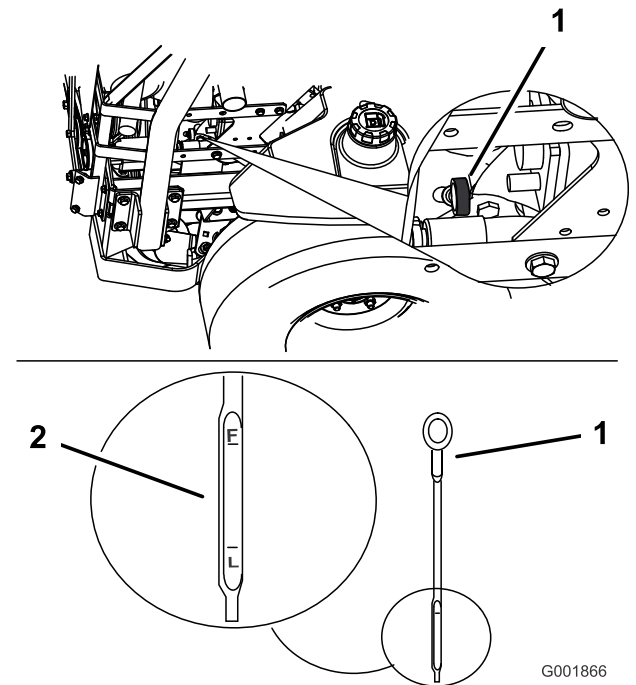

Figure 42
- Clean around the oil dipstick (Figure 42) so dirt cannot fall into the filler hole and damage the engine.
- Pull the oil dipstick out and wipe the metal end clean (Figure 42).
- Slide the oil dipstick fully into the tube. Pull the dipstick out and look at the metal end (Figure 42). If the oil level is low, slowly pour only enough oil into the fill hole to raise the level to the full mark.